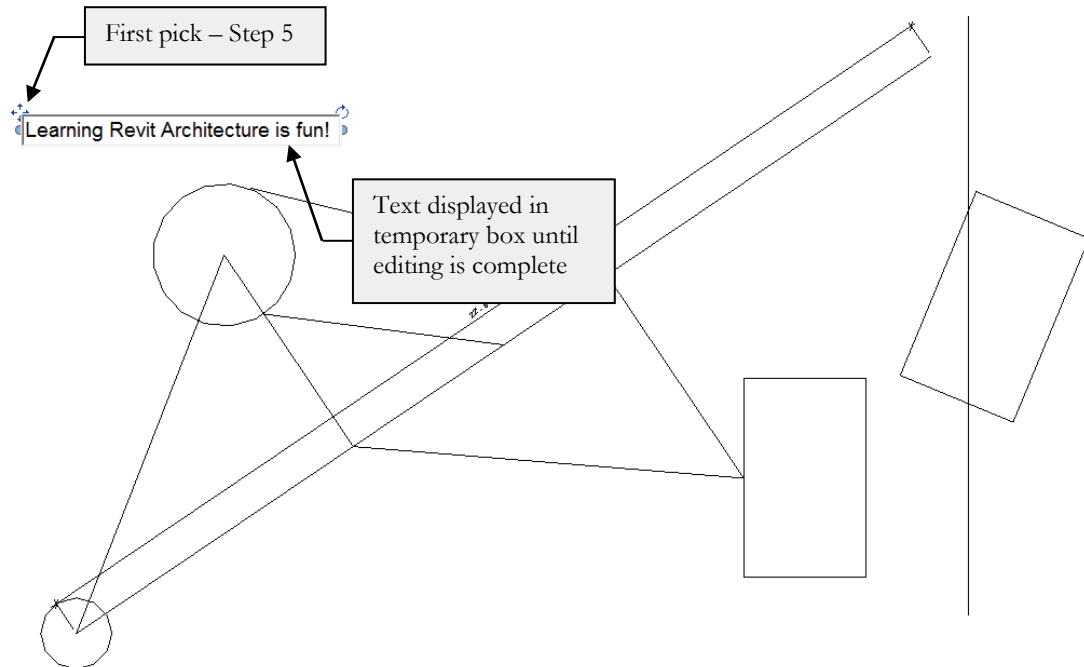

FIGURE 3-4.3 Text tool; picking first point and typing text.
5. Pick a point in the upper left portion of the view as shown in Figure 3-4.3.